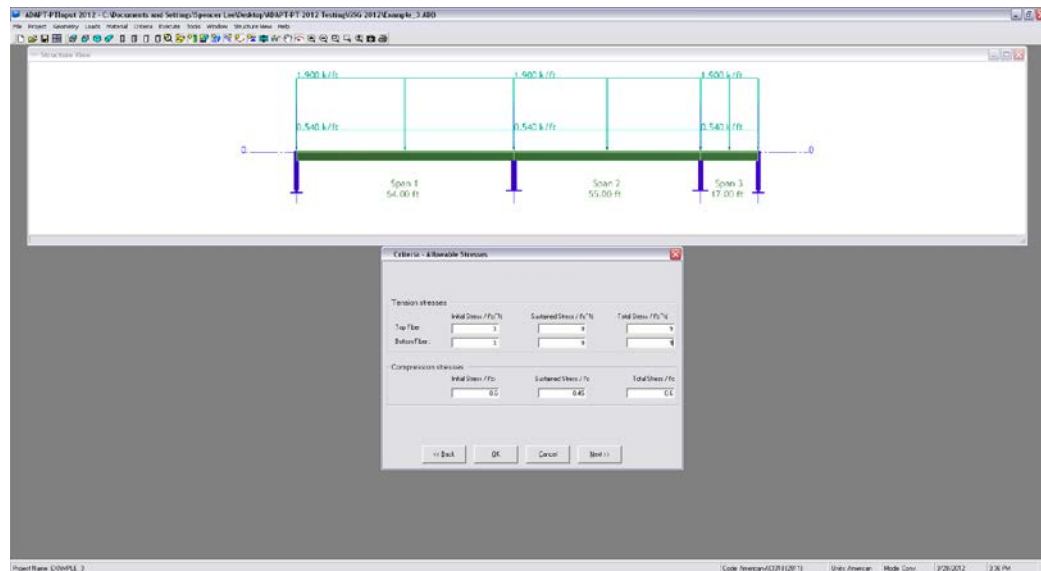

FIGURE 4.2-13
4.2.5.1 Enter The Initial And Final Allowable Stresses. (Fig. 4.2-13)